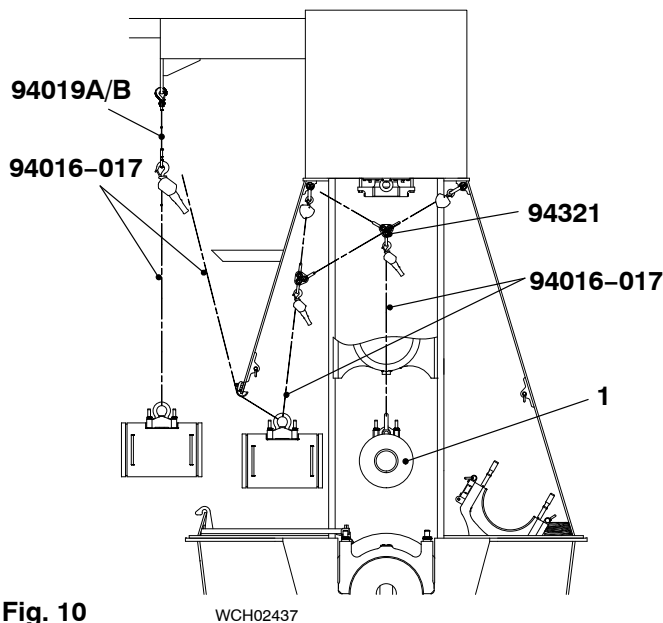

Fig. 10
- 4) Attach the two manual ratchets (94016 017, Fig. 10) to the eye bolt on the crosshead pin (1).
- 5) Move the crosshead pin (1, Fig. 10) through the door frame as follows: